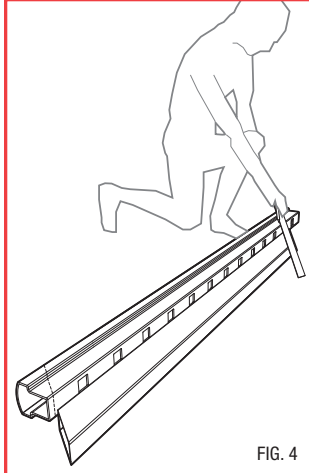

FIG. 4
5. Lay the top rail beside the bottom rail with baluster holes facing and aligned. (Fig. 4) Using a straight edge mark the continuation of the bottom rail angle onto the top rail. Ensure that the end spacing from end of rail to first baluster on each end of the top rail matches the bottom rail end spacing below. Cut the top rail.